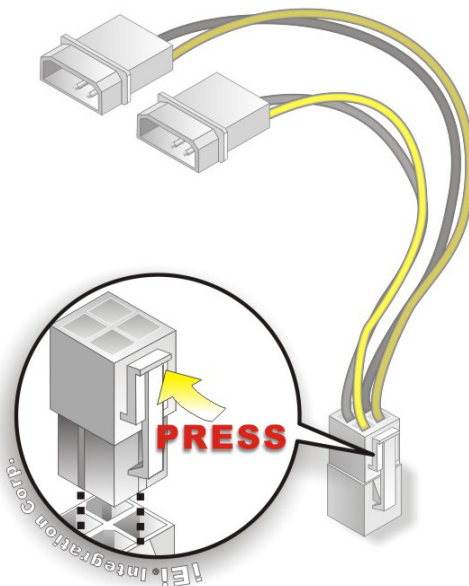

Figure 4-18: Power Cable to Motherboard Connection
Step 2: **Connect the power cable to the motherboard.** Connect the 4-pin (2x2) Molex type power cable connector to the power connector on the motherboard. See Figure 4-18.